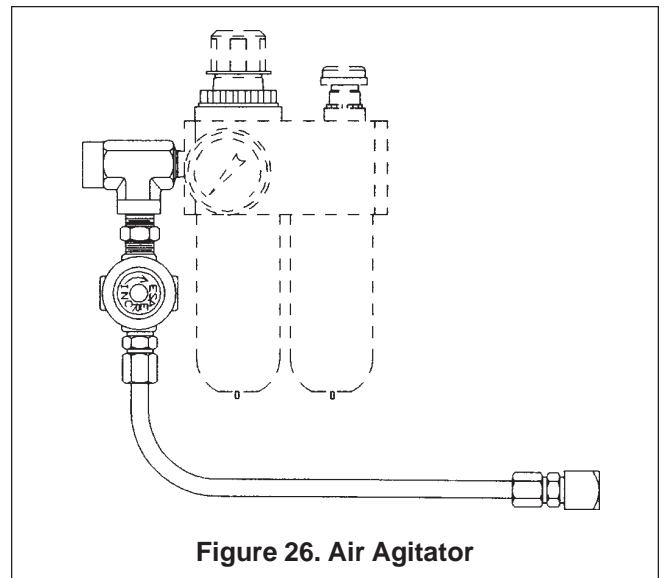

**Figure 25. Auto Fill Valve**
**AUTO FILL VALVE.** (See Figure 25.)